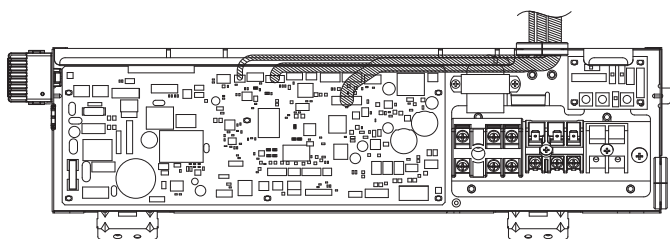

Fig. 6-2
1. Insert the lead wire of the optional VALVE KIT into the indoor unit through the wiring insertion port. (Fig. 6-2)